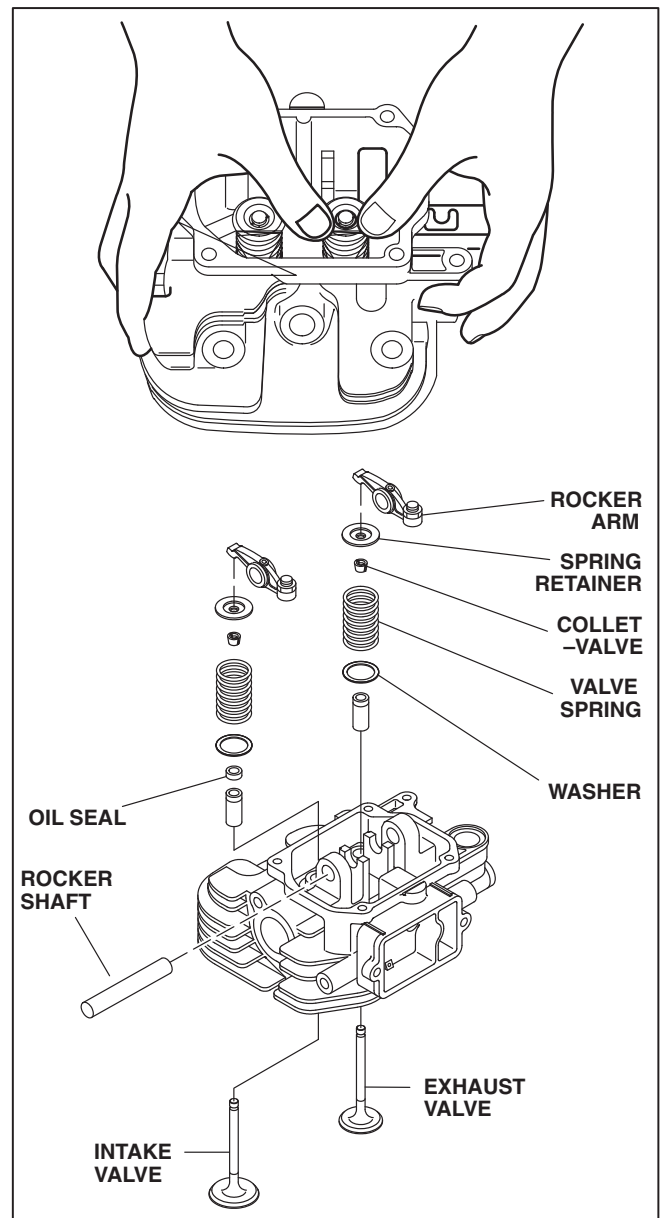

FIGURE 6-1.
1. Insert an oil seal to the intake valve guide only (Figure 6-1).
2. Apply oil to washer, valve spring and valve stem. Place cylinder head on flat table and install washer, valve spring, valve and spring retainer (Figure 6-1).